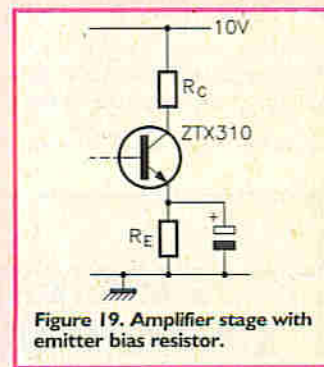

Figure 19. Amplifier stage with emitter bias resistor.
(11),  $0.225W$ . However, if the base current of the transistor causes the potential difference across  $R_C$  to be almost equal to  $V_{CC}$  the power rating of  $R_C$  is four times greater than for  $m = 0.5$ . Hence the required choice is  $R_C = 120\Omega \pm 5\%$ ,  $1W$ . If an emitter bias resistor  $R_E$  is present, as in Figure 19, the transistor does not over-dissipate provided  $(R_E + R_C) \geq 111\Omega$ .